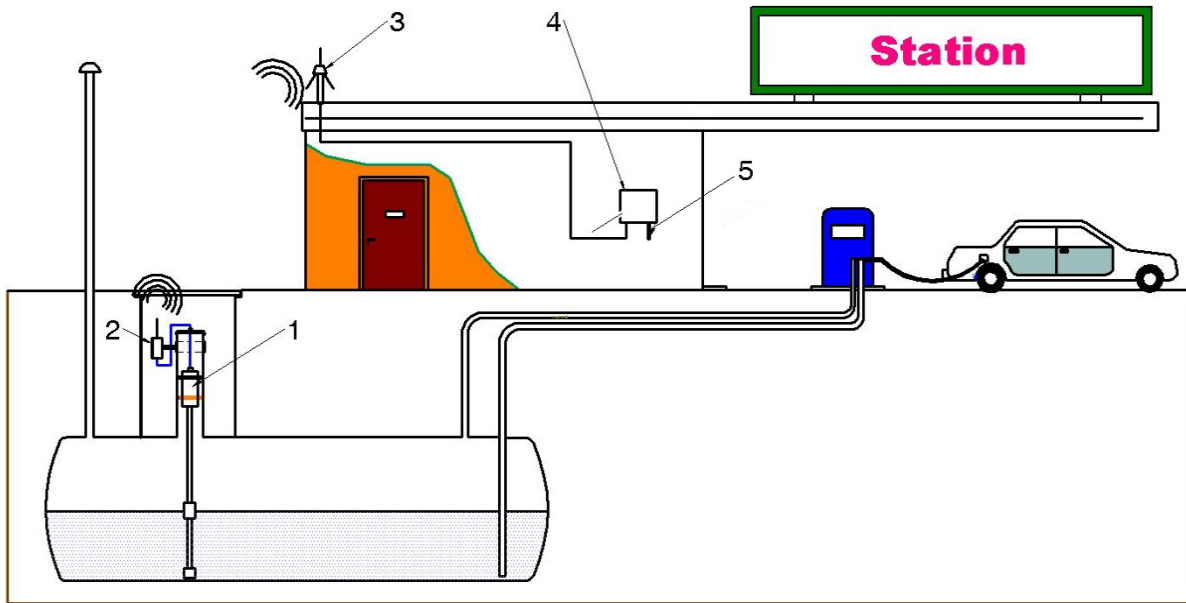

Figure 2 Typical layout of a petrol station
Below the Figure 2 shows a typical petrol station layout. The VISY-Stick sensor (1) is fitted inside the tank. The sensor connected to the VISY-RFT-L transmitter module (2) and is powered by an intrinsically safe battery inside the VISY-RFT-L transmitter module. The transmitter module generates radio signals, represented in the figure by semicircles. These radio signals are received by an antenna (3) and are forwarded to VISY-Command RF (4) along a 50-ohm coaxial cable. For viewing, the evaluated data can be forwarded to other peripheral equipment (VISY-View Touch, POS, BOS, etc.).